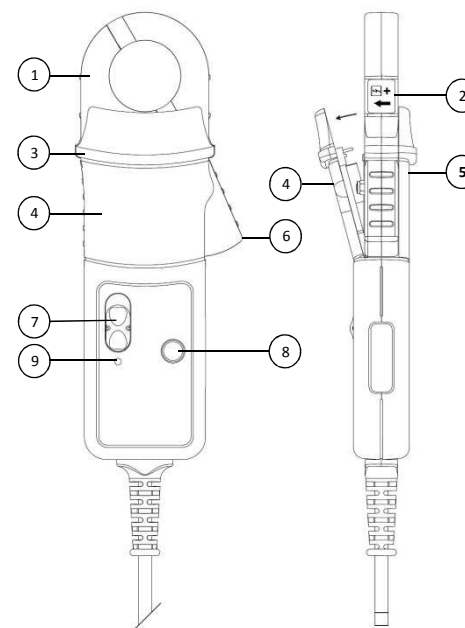

Fig 1
- Do not hold the probe anywhere beyond the tactile barrier see Fig 1.
The green or red LED will flash when the minimum operating voltage is approached. Refer to Fig 1. Use the following procedure:
Loosen the captive screw which secures the battery cover. Lift the cover through 30° and pull it clear of the probe body as shown in Fig 1. Replace the battery and re-fit the battery cover and fasten the screw.
Safety in its use is the responsibility of the operator who must be a suitably qualified or authorised person. Ensure that your fingers are behind the **protective barrier** see Fig 1 when using the probe. Always inspect the probe and lead for damage before use.